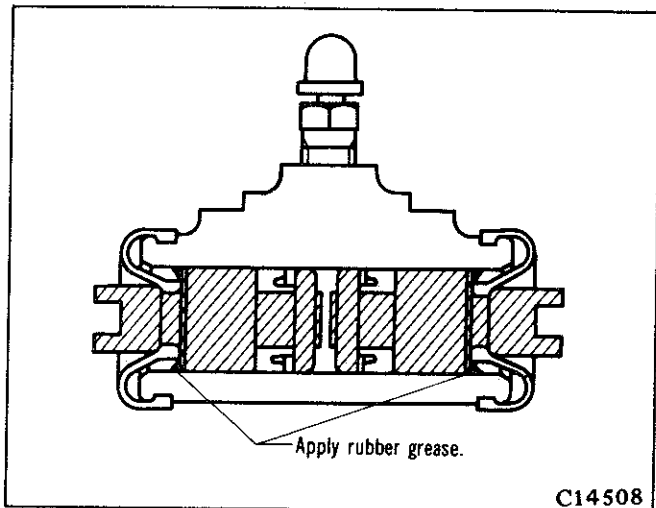

Fig. 7—Rubber grease application
(1) When the wheel cylinder is assembled, apply brake fluid to the inside surface of the cylinder and the entire peripheral surface of the piston cup.
(2) After installing the dust boots to the piston, apply the orange rubber grease (supplied in the repair kit) to the piston as shown, refer Fig. 7.